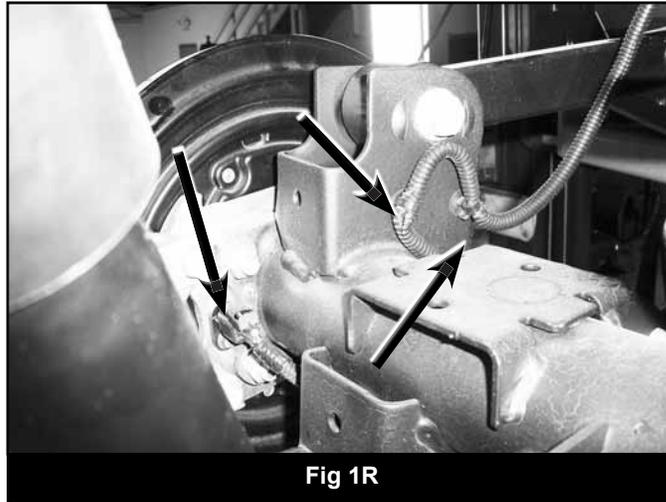

Fig 1R
4. Disconnect the ABS sensor wires from axle hubs and remove the retaining clips from axle (Fig 1R).